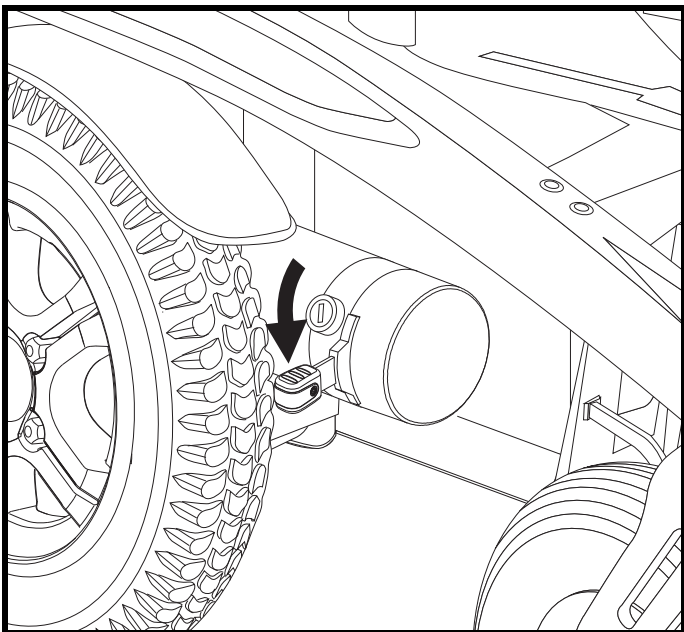

Figure 7. Freewheel Mode (Drive Disengaged)
1. Push down both manual freewheel levers for freewheel mode (drive motors disengaged). See figure 7.